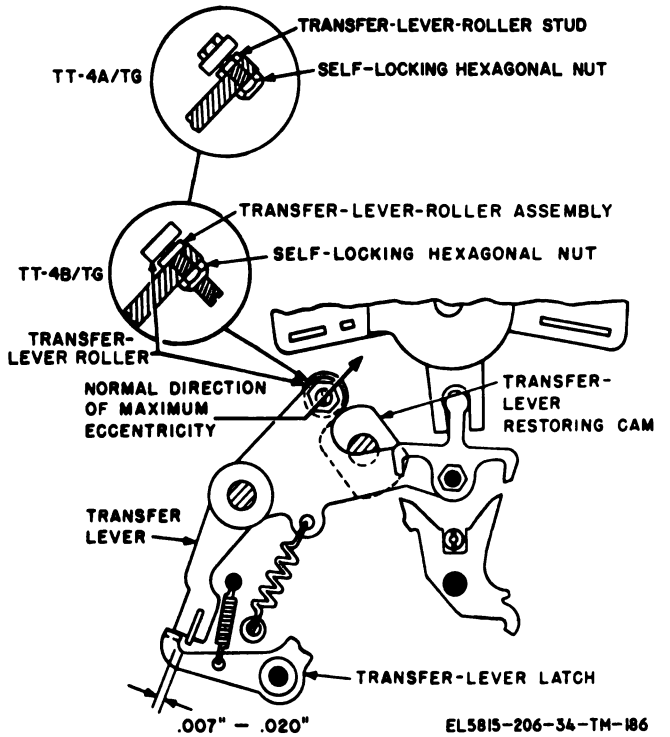

Figure 3-114. Transfer-lever roller stud adjustment.
*b. Adjustment.* Position the Y-levers for either R or Y code combination and pull the transfer-lever latch downward (fig. 3-114). Turn the motor by hand until the locking-bail spring pulls the code-ring locking bail against the code rings. Loosen the mounting screws and position the code-ring locking bail until the requirement is met. Tighten the mounting screws and recheck the clearances.
**3-147. Transfer-Lever Roller-Stud Adjustment (fig. 3-114)**